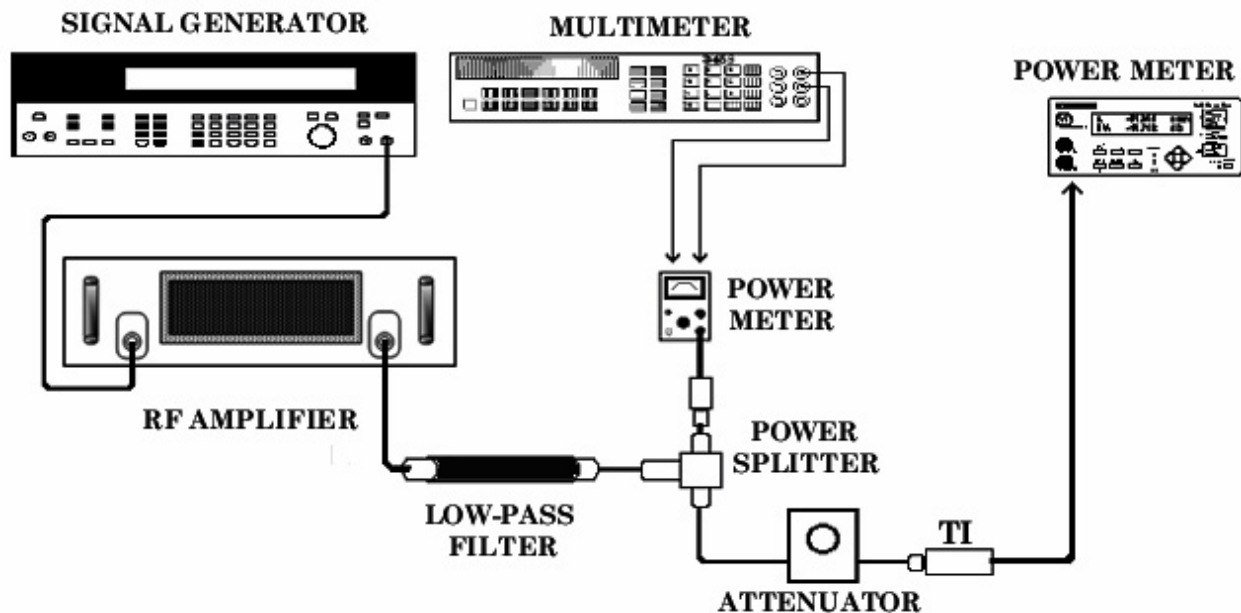

Figure 2. Power Sensor Linearity and CALFAC Equipment Hookup.
- a. Connect equipment as shown in figure 2.
- (1) Connect equipment as shown in figure 2, except remove low pass filter.
- (2) Set the step attenuator to 70 dB. Connect TI sensor to TI front panel **CALIBRATOR** output and zero the TI by pressing **ZERO/CAL**.
- (3) Set the step attenuator to 0 dB after the TI chimes to signal completing the zeroing process. Reconnect sensor to equipment hook up.
- (4) Set the multimeter to a range that results in a 1 μV resolution. Connect the positive and negative leads to the **V_{COMP}** and **V_{RF}** connectors respectively on the rear panel of the power meter.
- (5) Fine zero the power meter and set power meter **RANGE** switch to **1 mW**.
- (6) Record the multimeter indication as **V₀**.
- (7) Set the signal generator output to 1.0 GHz and level to 1.00 mW as indicated on the power meter.
- (8) Record multimeter reading as **V₁**. Record TI reading as **P_i**.
- (9) Disconnect the multimeter negative lead from the **V_{RF}** connector on the rear panel of the power meter and connect it to chassis ground. Record this voltage as **V_{COMP}**.
- (10) Calculate that actual power using the formula listed below and record as **P_t**.